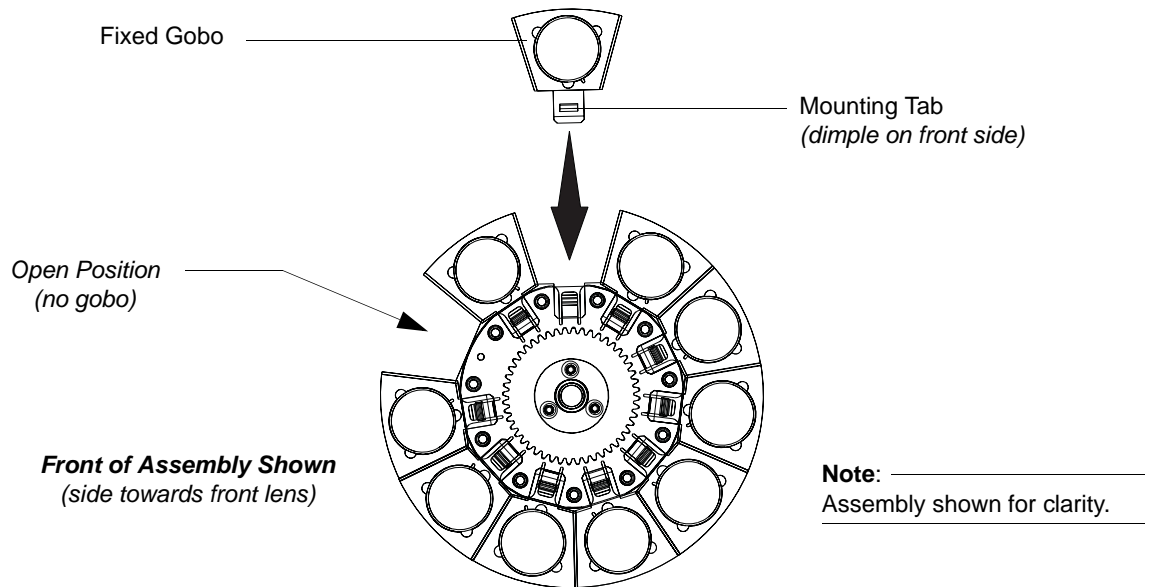

Figure A-12: Fixed Gobo Wheel - Gobo Installation.
- Step 5. At position where fixed gobo was removed, place replacement fixed gobo over open slot (as shown in Figure A-12), slide into wheel, and gently snap gobo into place.